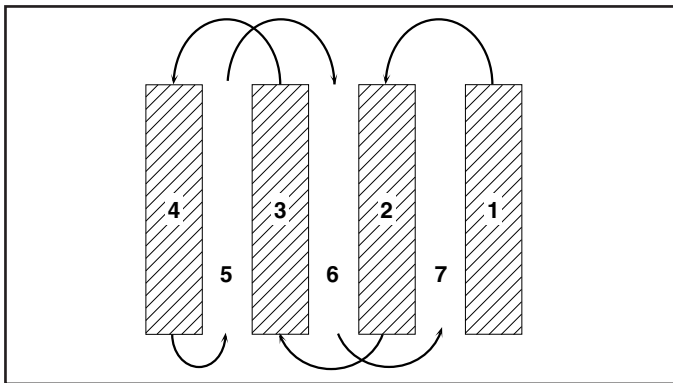

FIG. 15
- You will find tilling much easier if you leave a row untilled between passes. Then go back between tilled rows. (See Fig. 15) There are two reasons for doing this. First, wide turns are much easier to negotiate than about-faces. Second, the tiller won't be pulling itself, and you, toward the row next to it.